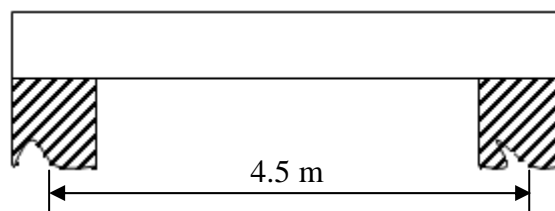

Figure 2.0
2. a) A simply supported square concrete slab spanning in two directions as shown in Figure 2.0 is to be designed to carry an imposed load of  $3.5 \text{ kN/m}^2$ , finishes and ceiling of  $1.0 \text{ kN/m}^2$  excluding the selfweight of slab. The characteristic strengths of the materials are  $f_{cu} = 30 \text{ N/mm}^2$  and  $f_y = 460 \text{ N/mm}^2$ . Assume span-effective depth ratio of 20 with modification factor of 1.3.